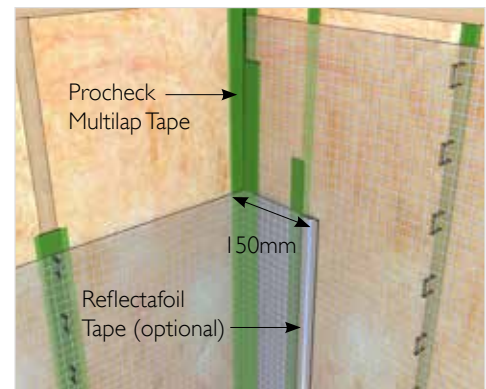

Fig.3: Corner joint detail showing fixing placement through Procheck Multilap Tape
4. Mechanical fixings (staples) may be used to permanently attach the VCL to the underlying substrate/stud/fixing rail by firing through the run of Multilap Tape. The Tape ensures vapour-tightness by sealing the fixing puncture. (Fig.3)
5. Perimeter edges may be sealed with Reflectafoil Tape (Fig.3).